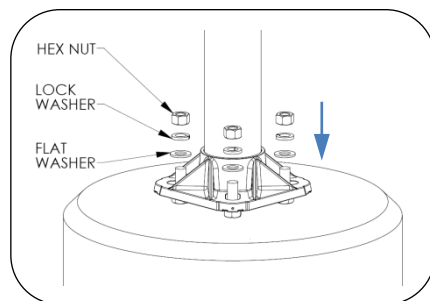

Fig. 6 – Install pole
8. Lift the light pole into position over the installed anchors (refer to LEO anchor kit installation guide) as shown in Fig. 6. Ensure that the base plate is resting on all four washers.
9. Install washer, lock washer and hex nut as shown in Fig. 6.